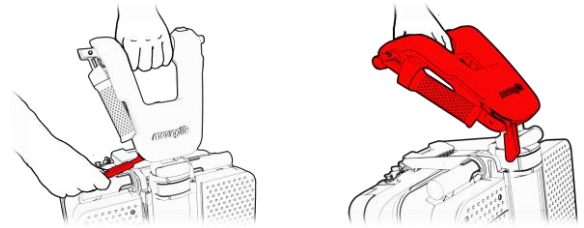

Figure 45
8. Release the adjustment lever of the handlebar (see Figure 45, step 1) and bring the handlebar to a horizontal position (see Figure 45, step 2). Then bring the lever back to the secure position (see Figure 45, step 3).